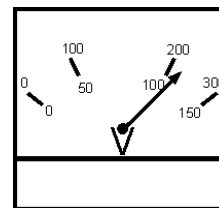
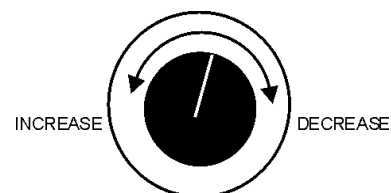

Figure 44. Voltage Meter (Volts)
Figure 45. Voltage Adjust Control Knob
10. The generator's voltage meter (Figure 44) displays the 120 VAC in VOLTS. If the voltage is not within the specified frequency tolerance, use the voltage adjustment control knob (Figure 45) to increase or decrease the desired voltage.